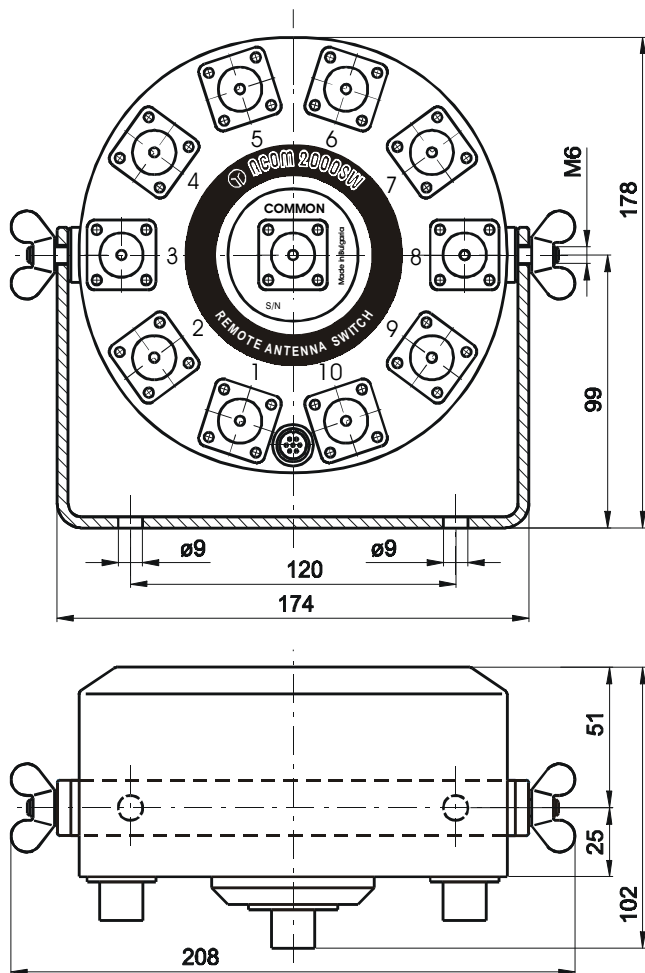

Fig. 2-1
* Two holes, 9mm diameter and 120mm distanced are available on the mounting bracket to firm it to the mounting base - see Fig 2-1.